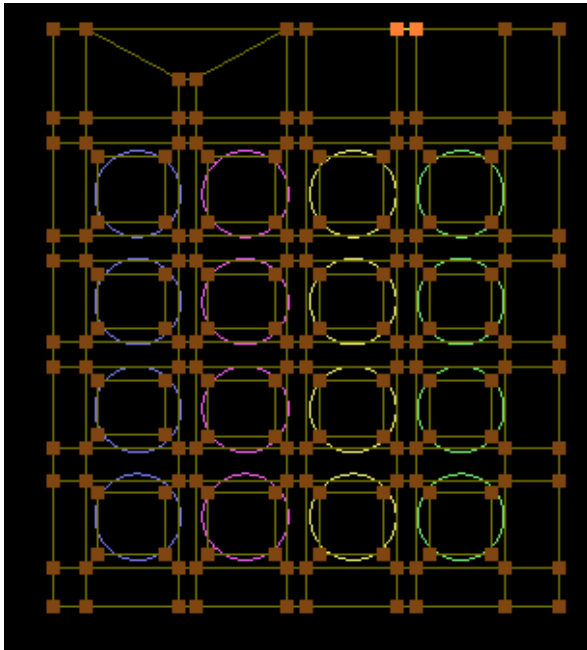

Figure 31.1
- Similarly group the two corners as shown in figure 31.1.